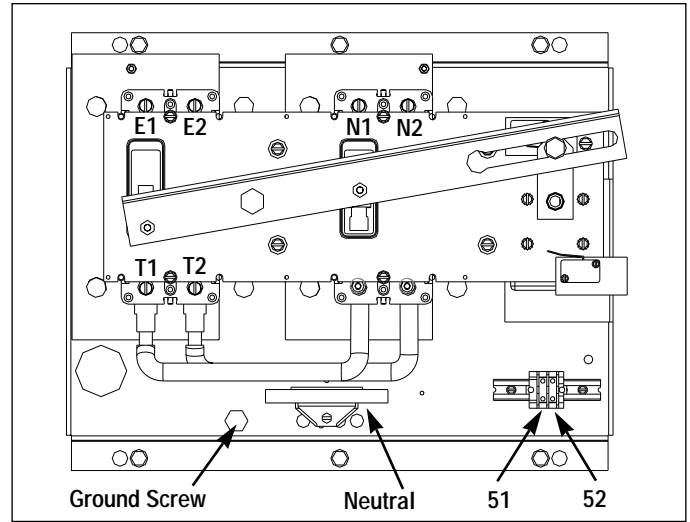

Figure 4-5 Cable Connections
Step 5: Connect cables as follows (Figure 4-5):